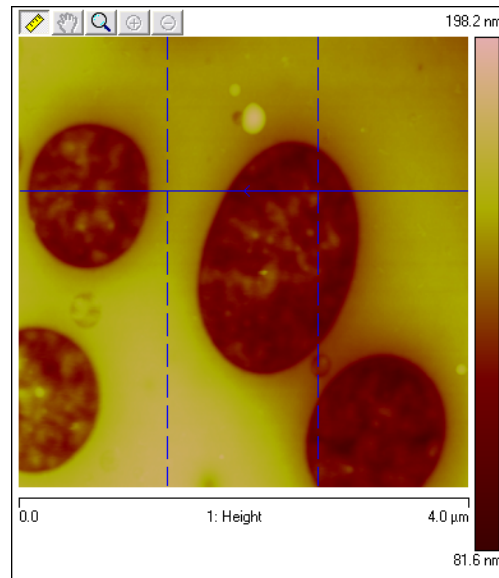

Figure 8.1b: The **Height** channel of the image file
5. The solid blue horizontal line, shown in Figure 8.1b, displays the captured line.
The arrow in the **Image Line Selection** panel and the solid blue line, shown in Figure 8.1b, display the scan direction. The counters are displayed in the **Force Curve Selection** panel.